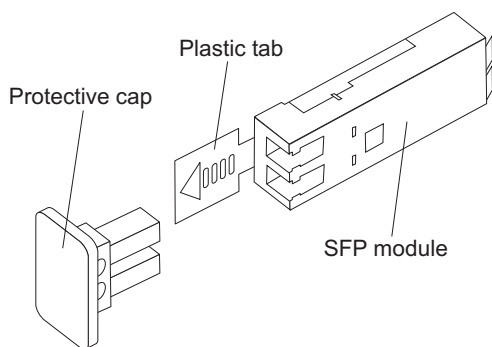

Figure 23. SFP module and protective cap
2. Remove the protective cap from the SFP module, as shown in Figure 23. Save the protective cap for future use.
2. If necessary, remove the protective cap from the SFP module, as shown in Figure 23 on page 42. Save the protective cap for future use.